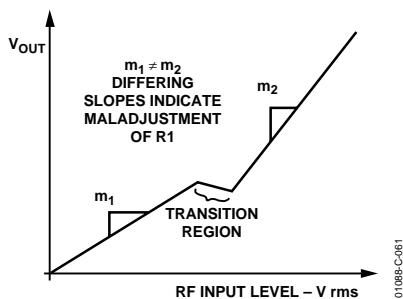

Figure 61. Slope Adjustment
3. Set R1 so that the transfer function's slopes are equal on both sides of the transition zone. This is perhaps best accomplished by making a plot of the overall transfer function (using linear voltage scales for both axes) to assess the match in slope between one side of the transition region and the other (see Figure 61). Note: it may be helpful to adjust R3 to remove any large misalignment in the transfer function in order to correctly perceive slope differences.